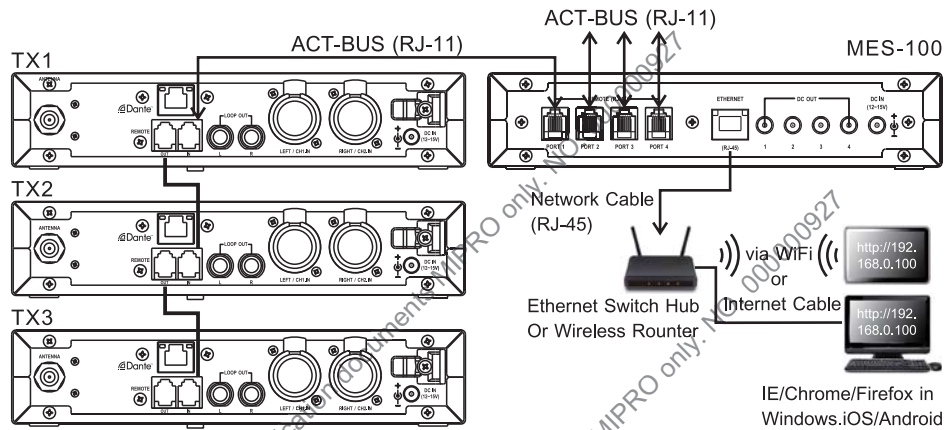

Fig. 20
- (A) Use one RJ-11 cable to connect TX1 and TX2, another RJ-11 to connect TX2 and TX3, and so on, as Fig. 20.
- (B) Use an RJ-11 cable to connect TX1 to MES-100.
- (C) Up to 64 transmitters can be linked.
- (D) The recommended cable length of RJ-11 should not exceed 100 m to ensure high-speed transmission quality.